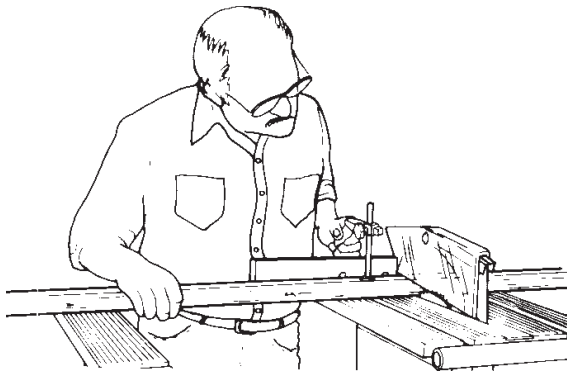

Figure C-2
7. Mount an extension table in the power or base mount located at either end of the MARK 520S. Use a miter gauge extension to help keep the stock square to the blade. Start by cutting long stock in the middle. This gets it down to a manageable length. See Figure C-2.